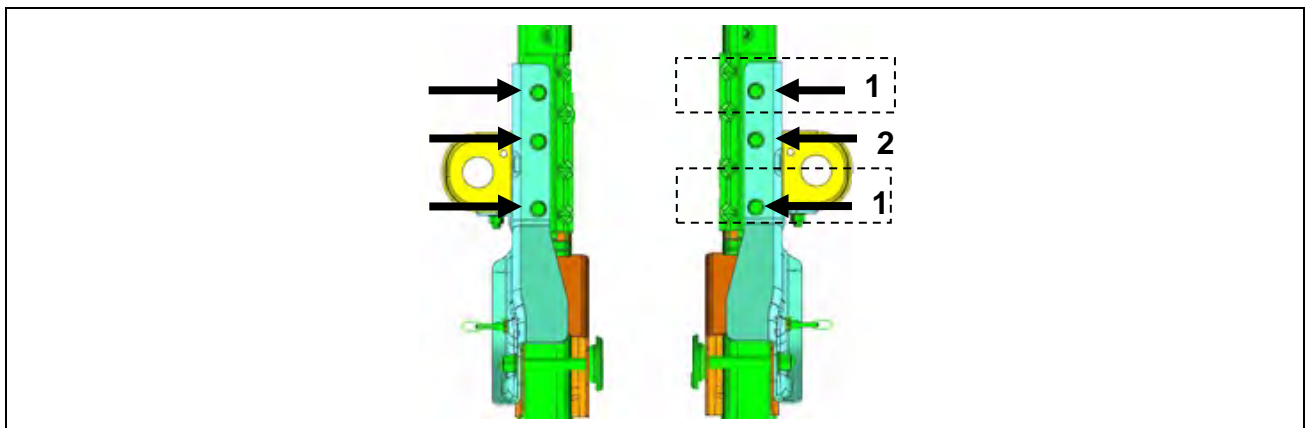

Figure 17 – Drilling Locations
6. Using the 1/4" drill bit guide or equivalent, drill 1/4" pilot holes for six new Pop-nut locations (see note and Figures 17, 18 and 19 for reference).